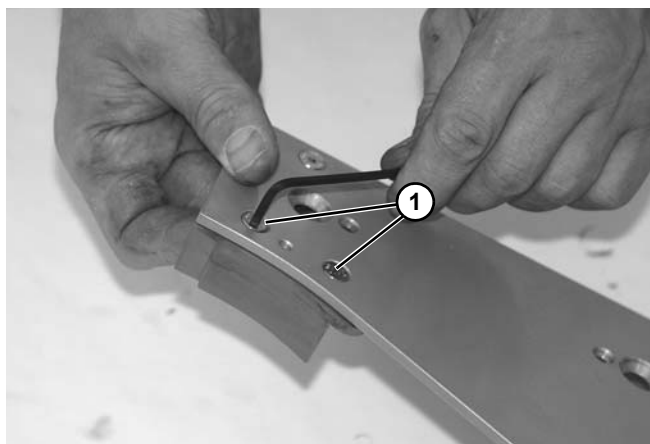

Figure 131
2. Remove two socket head screws (**Figure 131, item 1**).